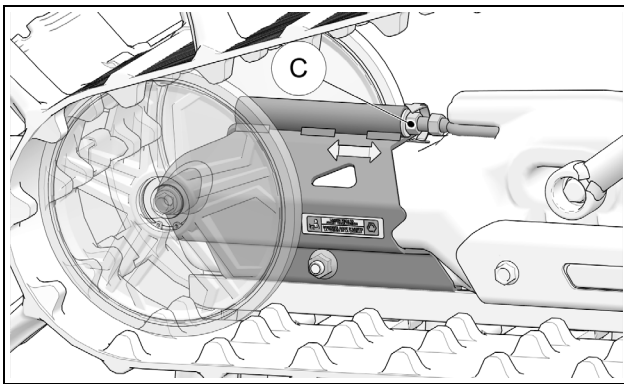

Figure 20
To adjust track tension, turn tension adjustment nut (C) clockwise or counterclockwise to obtain the recommended track tension. See Figure 20.